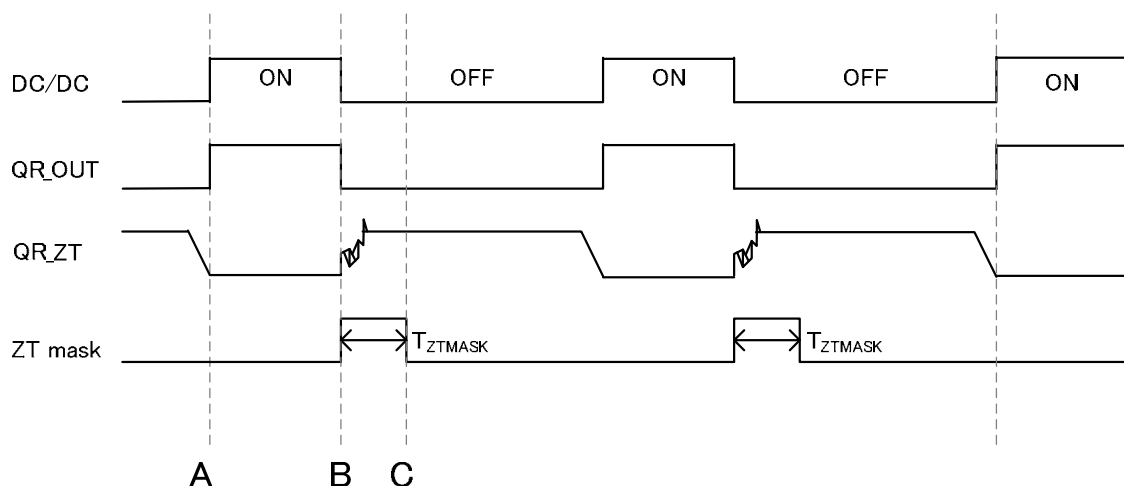

Figure 18. The Function of QR\_ZT Trigger Mask.
**(6-5) ZT Trigger Mask Function (Figure 18)**